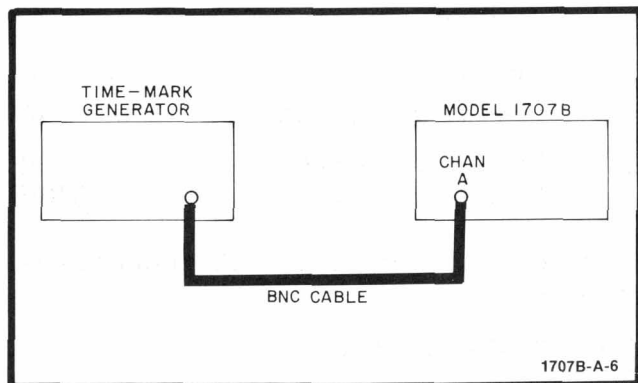

Figure 5-7. Main Sweep Time Test Setup
- a. Connect instruments as shown in figure 5-7.